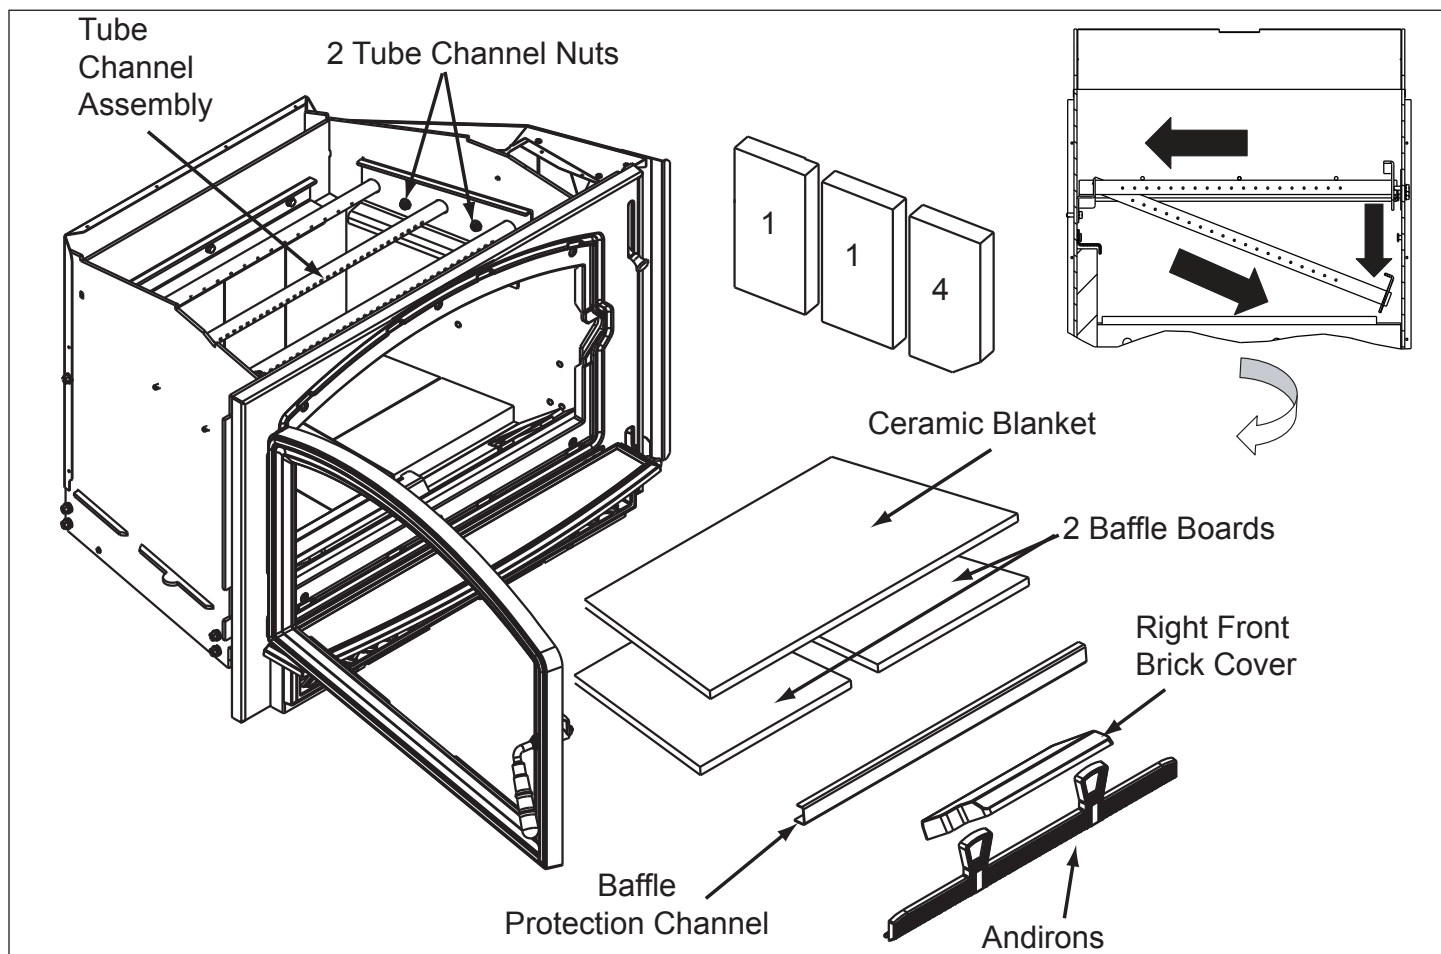

Figure 25.3
5. Slide the tube channel assembly all the way to left until it is off the threads. Drop the right side down, then slide the assembly back to right. **Figure 25.3.**